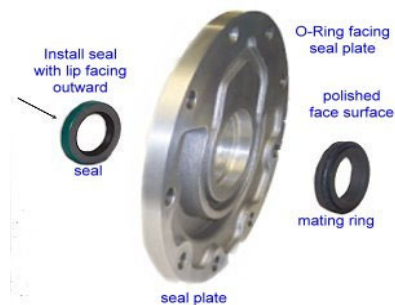

Figure 1
6. Install oil seal (p/n 33-2120) in the seal plate, install with the seal lip facing away from the compressor (see figure 1).
7. Apply clean compressor oil to the new mating ring (Hard Ring) O-ring. Ensure that the seal installation tool is thoroughly cleaned. Using the seal mating ring insertion tool (p/n 204-953), push the mating ring fully into the seal plate. Do not pinch the O-ring. Install the mating ring with the polished side out (facing the compressor body). If the insertion tool is not available, use the foam pad in the seal packaging to protect the polished surface of the mating ring during assembly (see figure 1).